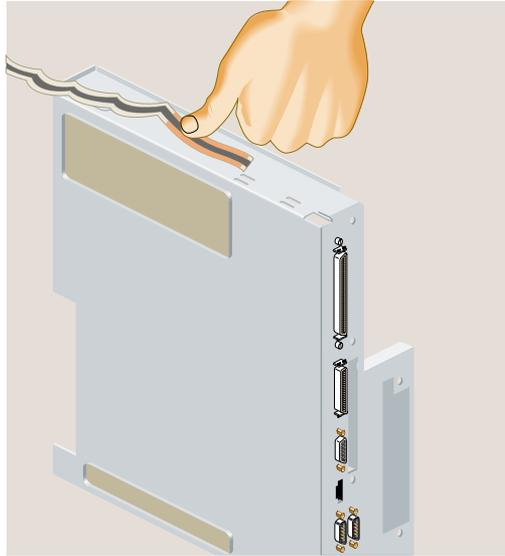

Figure 5-12 Attaching the Wrist Strap
5. Before touching any of the components, ground yourself to a metal part of the chassis. Attach the wrist strap as follows: (Figure 5-12)